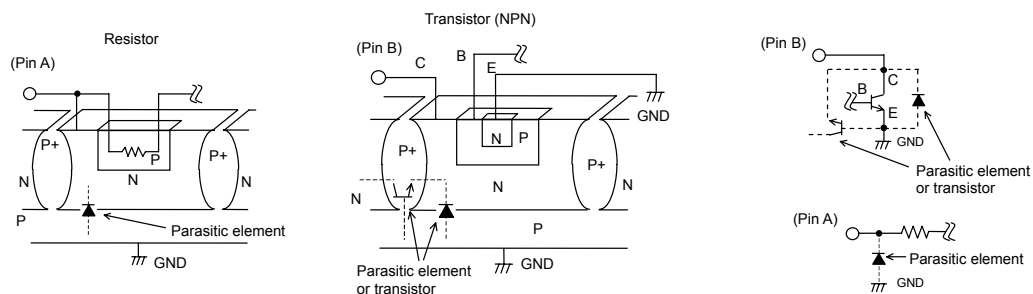

Fig.36 Example of the basic structure of a bipolar IC
- 2) This IC is bipolar IC that has a P-board (substrate) and P+ isolation layer between each device, as shown in Fig.36. A P-N junction is formed between this P-layer and the N-layer of each device, and the P-N junction operates as a parasitic diode when the electric potential relationship is $GND > \text{Pin A}$, $GND > \text{Pin B}$, while it operates as a parasitic transistor when the electric potential relationship is $\text{Pin B} > GND > \text{Pin A}$. Parasitic devices are structurally inevitable in the IC. The operation of parasitic devices induces mutual interference between circuits, causing malfunctions and eventually the destruction of the IC. It is necessary to be careful not to use the IC in ways that would cause parasitic elements to operate. For example, applying a voltage that is lower than the GND (P-board) to the input terminal.